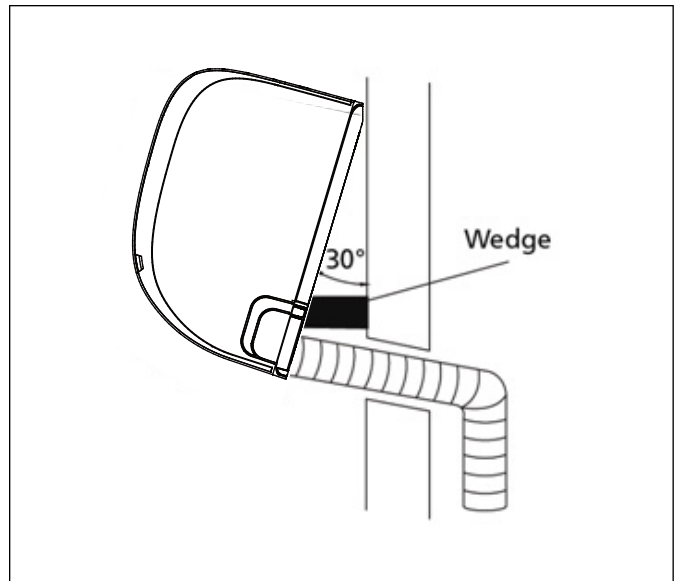

Figure 13
3. Use a bracket or wedge to prop up the unit, giving you enough room to connect the refrigerant piping, signal/power cable, and drain hose. Refer to Figure 13 for an example.